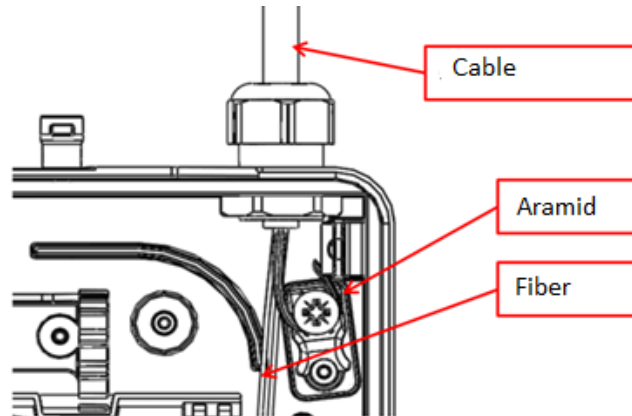

Fig. 39
3.10.4. Thread the cable through the gland. Tight the nuts to secure gland and the cable (Fig.39)